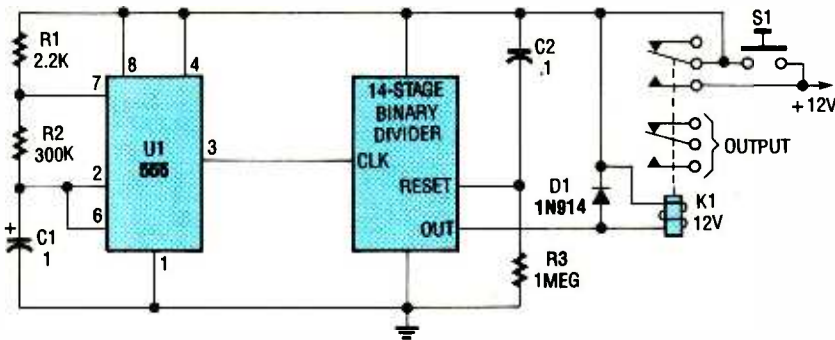

Fig. 7. This method of obtaining a 60-minute timing period from the 555 IC can be expanded upon to produce even longer delays with equal accuracy.
**Long-Period Timers.** The 555 IC makes an excellent manually triggered relay-driving timer when used in the monostable mode. However, its useful timing periods are limited to a maximum of only a few minutes. The best way of getting very long timing periods is to use the 555 IC in the astable mode and feed its output to the relay via a digital counter/divider stage. That way, the relay does not change state until the astable has completed a large, predetermined number of timing cycles. Figure 7 shows, in detailed block-diagram form, a 60-minute timer of this type. Here, a 555 is wired as a 2.28-Hz asta-